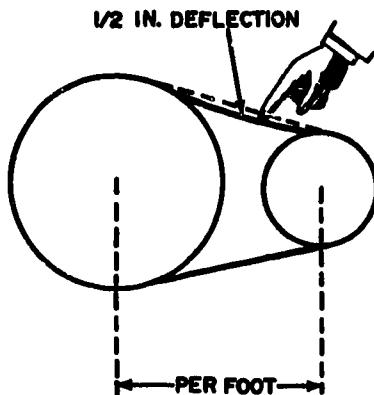

Fig 5-21. Blower belt tension.
- BELT TENSION - Visual inspection of belts will tell a technician whether or not they have been tensioned properly. Thus, running belts too loose will cause them to bounce up and down or flop excessively. This, in turn, requires more tension be put on the belts. To remedy such situations, proper tension must be put on the belts, and this requires approximately a 1/2 inch depression per foot between the centers of the pulley, as shown in figure 5-21. When the unit is off, a belt check will reveal whether or not the pulleys are out of alignment; this can be determined by the excessive wear on the edge of the belts.